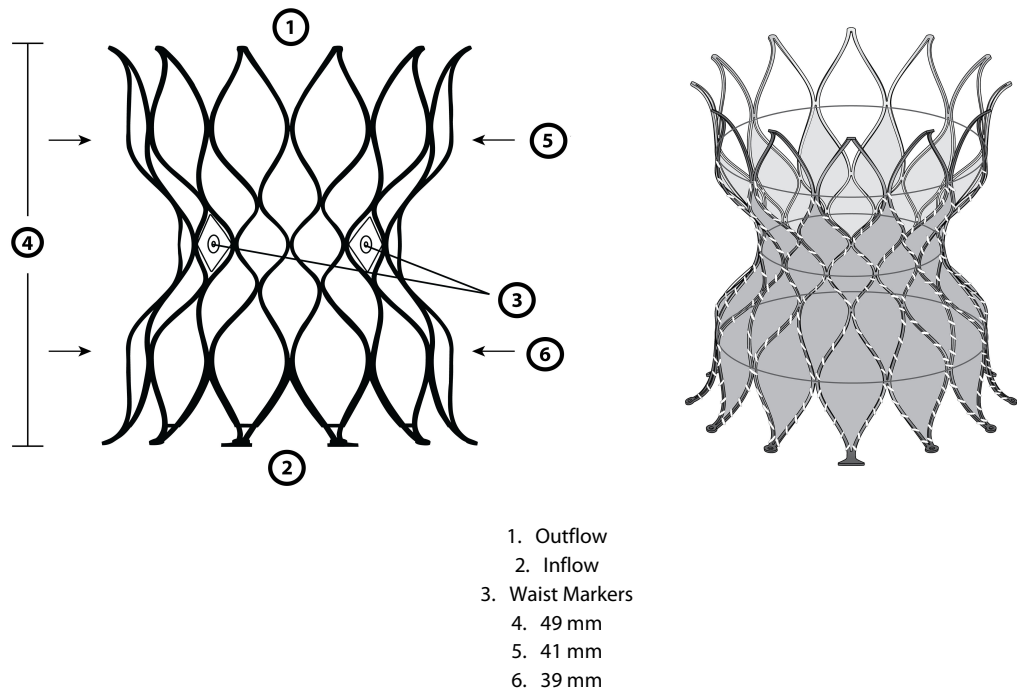

Figure 1: Edwards Alterra Adaptive Prestent
• **Edwards Alterra Adaptive Prestent (Figure 1)**